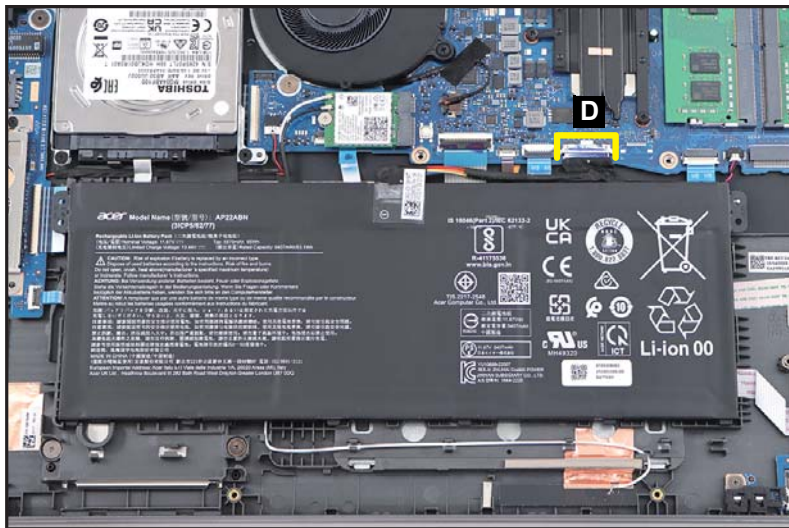

Figure 1-7. Battery Pack Removal
4. Disconnect the battery cable from the mainboard connector (D) (Figure 1-7).